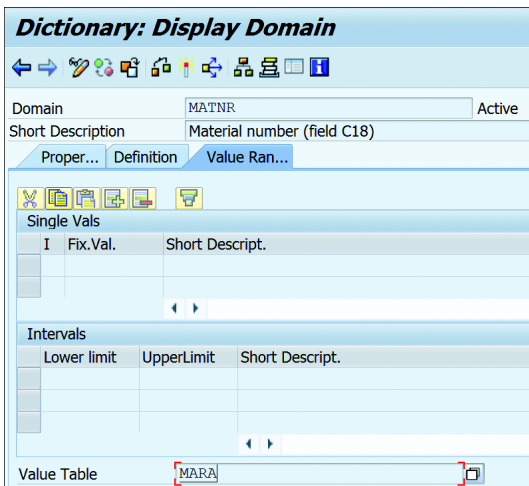

Figure 10.27 Value Table Assigned for Domain
2. If a value table is maintained at the domain of the field, the system will show a prompt asking whether to create a proposal based on the value table. A *value table* is maintained at the domain (see Figure 10.27) that is attached to the data element; it specifies the possible entries for the field but does not perform any checks.